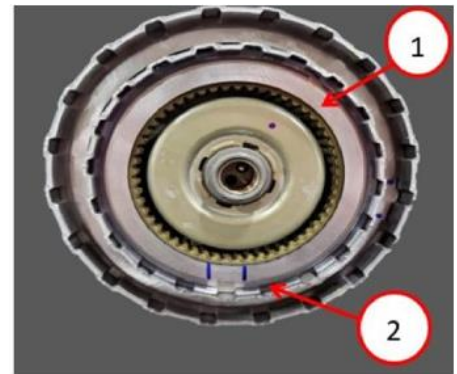

Figure 7 – Underside View of Correctly Seated Snap Ring
- b) Replace the snap ring in K1 Drum with replacement P/N 68269568AB snap ring. Be sure to install so that the snap ring ends are covered in the groove by drum "teeth" (Fig. 7) **(not installed such that the ends are in open spaces of the groove).**
**NOTE: The K1 snap ring should be fully seated inside K1 drum groove. The K1 clutch pack should remain inside the K1 assembly (Fig. 7).**